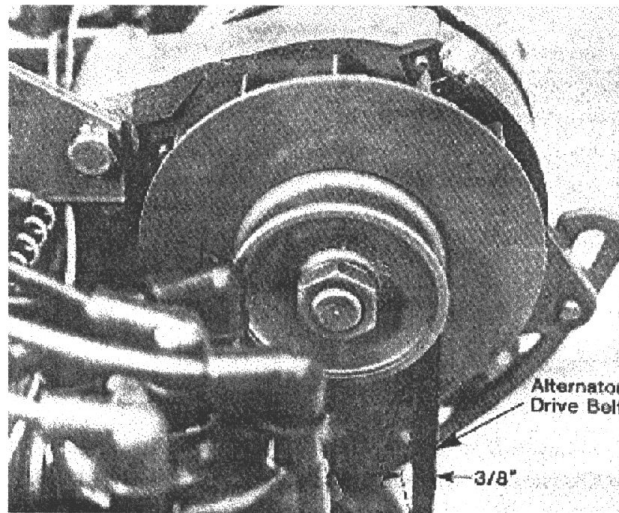

FIGURE 5 - ADJUSTING ALTERNATOR DRIVE BELT
2. Alternator drive belt (see Figure 5). Examine for fraying and proper tension. A spare belt should be carried aboard.
2. Adjust alternator drive-belt for correct tension (see Figure 5).
5. Loosen the two alternator mounting bolts and release the tension from the drive belt (see Figure 5).